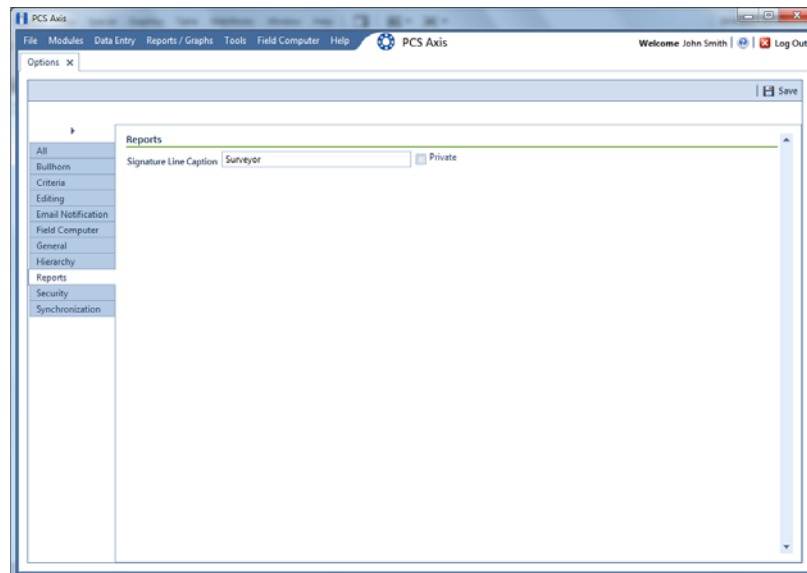

Figure 3-12. Reports
- 2 Click the **Reports** tab to open the *Reports* option page (Figure 3-12, page 52).